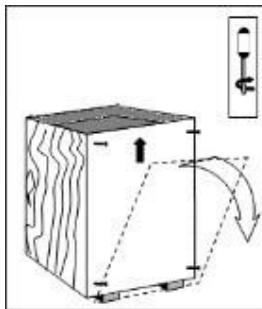

Figure 3-2. Opening the Front Cover of the Shipping Box
2. Open the front cover, as shown in Figure 3-2.